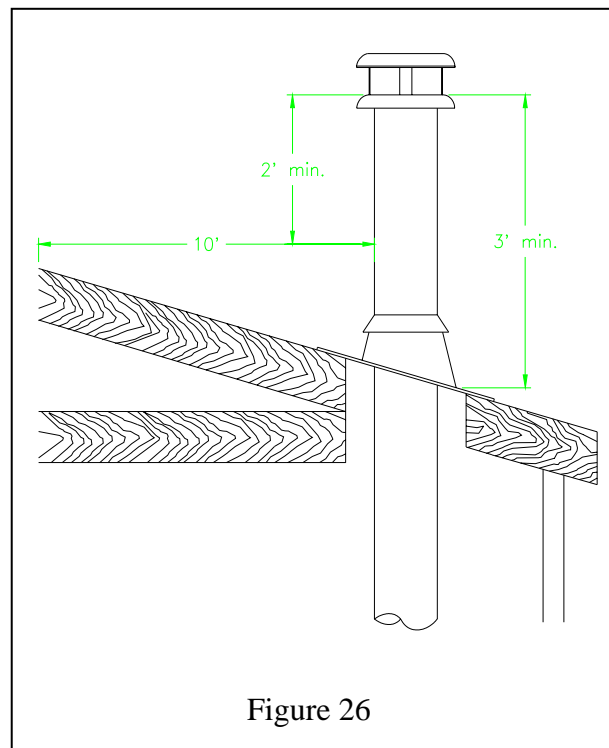

Figure 26
6. The chimney must extend at least 3 ft. (915 mm) above its point of contact with the roof and at least 2 ft. (610 mm) higher than any wall, roof or building within 10 ft. (3m) of it (Figure 26).